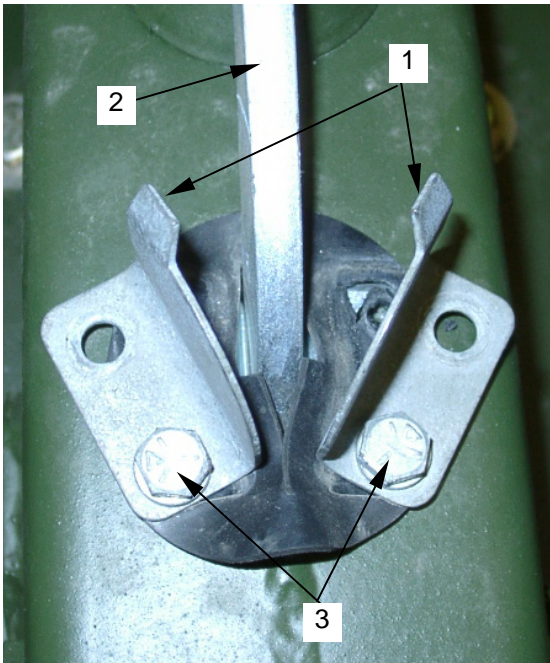

Figure 10. Breakaway Locks
4. Move the two breakaway locks (**figure 10, item 1**) out of the way and reposition the breakaway lever (**figure 10, item 2**) to the ready position.
6. Reinstall the two remaining front bolts (**figure 10, item 3**).